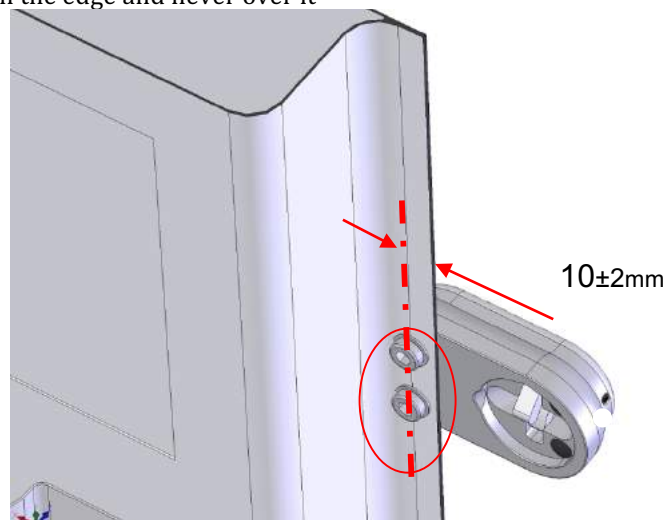

Fig.5
- **The position of the first two 9mm holes is about 10 ± 2 mm from the vertical edge of the door that opens** (see fig.5). It is a very durable surface of the door. The stated tolerance is necessary to allow the placement of the M8 cylindrical bolts head within the edge and never over it
Before drilling, check that the head of the M8 bolt is contained in the edge (see Figure 5).